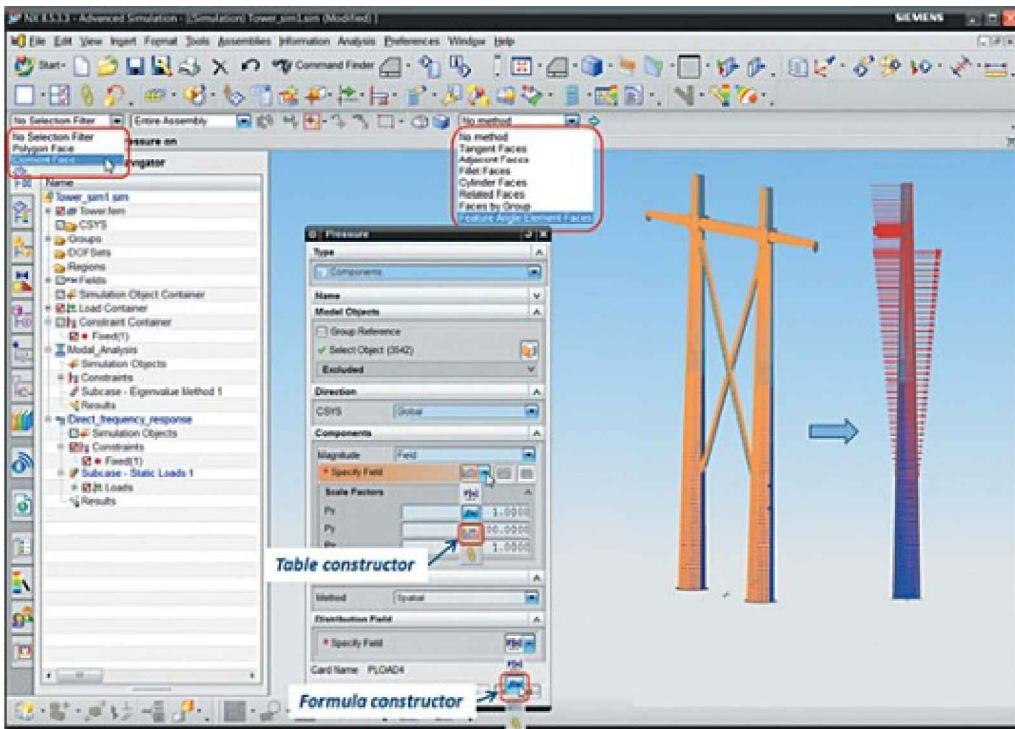

Figure 3.22. Specifying pressure
To create wind load pressure, in the Simulation Navigator model tree, right-click *Load container*, and in the **New Loads** submenu of the shortcut menu, choose *Pressure*. In the dialog box, specify the following (Figure 3.22):
- Under *Select Object*, select elements oriented along the OY axis with regard to the XOZ plane, as shown in Figure 3.22. For convenience, you can use *Selection Filter – Element Face*, *Selection Method – Feature Angle Element Face*.